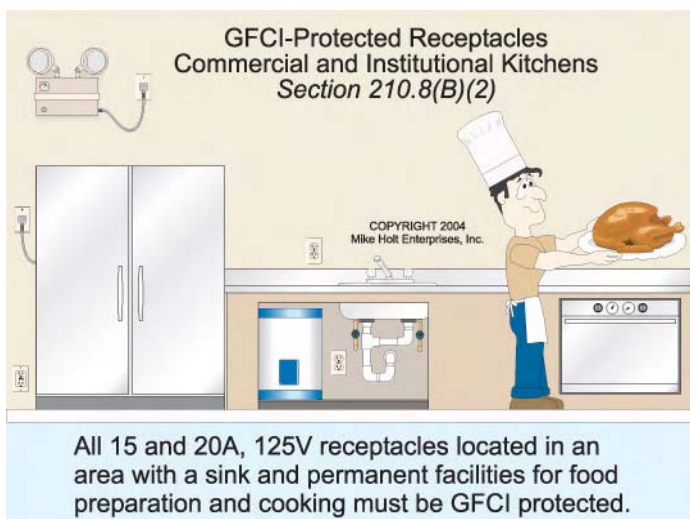

Figure 210-25
(2) Commercial and Institutional Kitchens. All 15 and 20A, 125V receptacles installed in an area with a sink and permanent facilities for food preparation and cooking (kitchens), even those that do not supply the countertop surface, must be GFCI protected. **Figure 210-25**